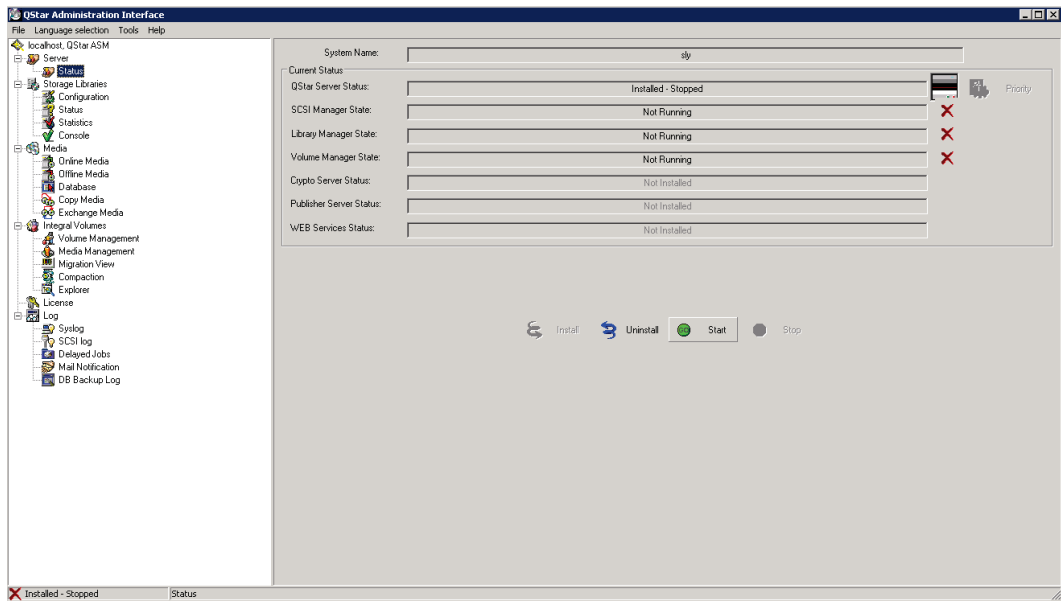

Figure 14. Starting the QStar server
4. Prior to using a newly configured library, you must start the QStar server. You will not be able to start the QStar server until you have obtained a license key (demo or permanent) and added a storage library. After those steps have been completed, click on **Status** under **Server** in the QStar Administration Interface. Click on the **Start** button to start the QStar server. See **figure 14** as an example.